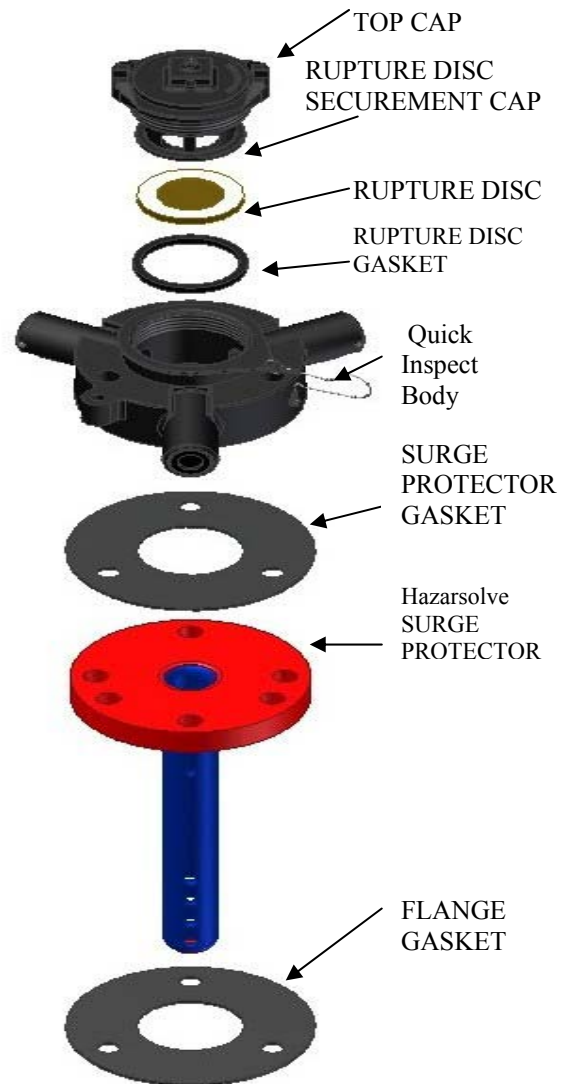

Figure 1
- a. Thoroughly inspect both sides of the rupture disc (Figure 1).
5. Rupture disc. **DO NOT REMOVE ANY CLEAR TEFLON, WHITE OR ANY AFFIXED GASKET FROM THE DISC** (Figure 1)